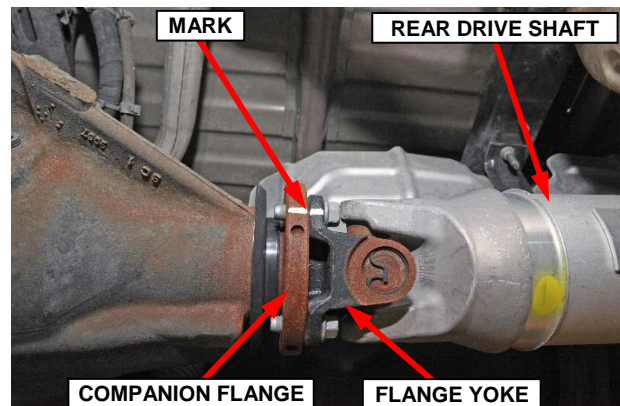

Figure 8 – Mark Rear Drive Shaft
13. Mark a line across the rear axle companion flange and rear drive shaft flange yoke for drive shaft installation reference (Figure 8).